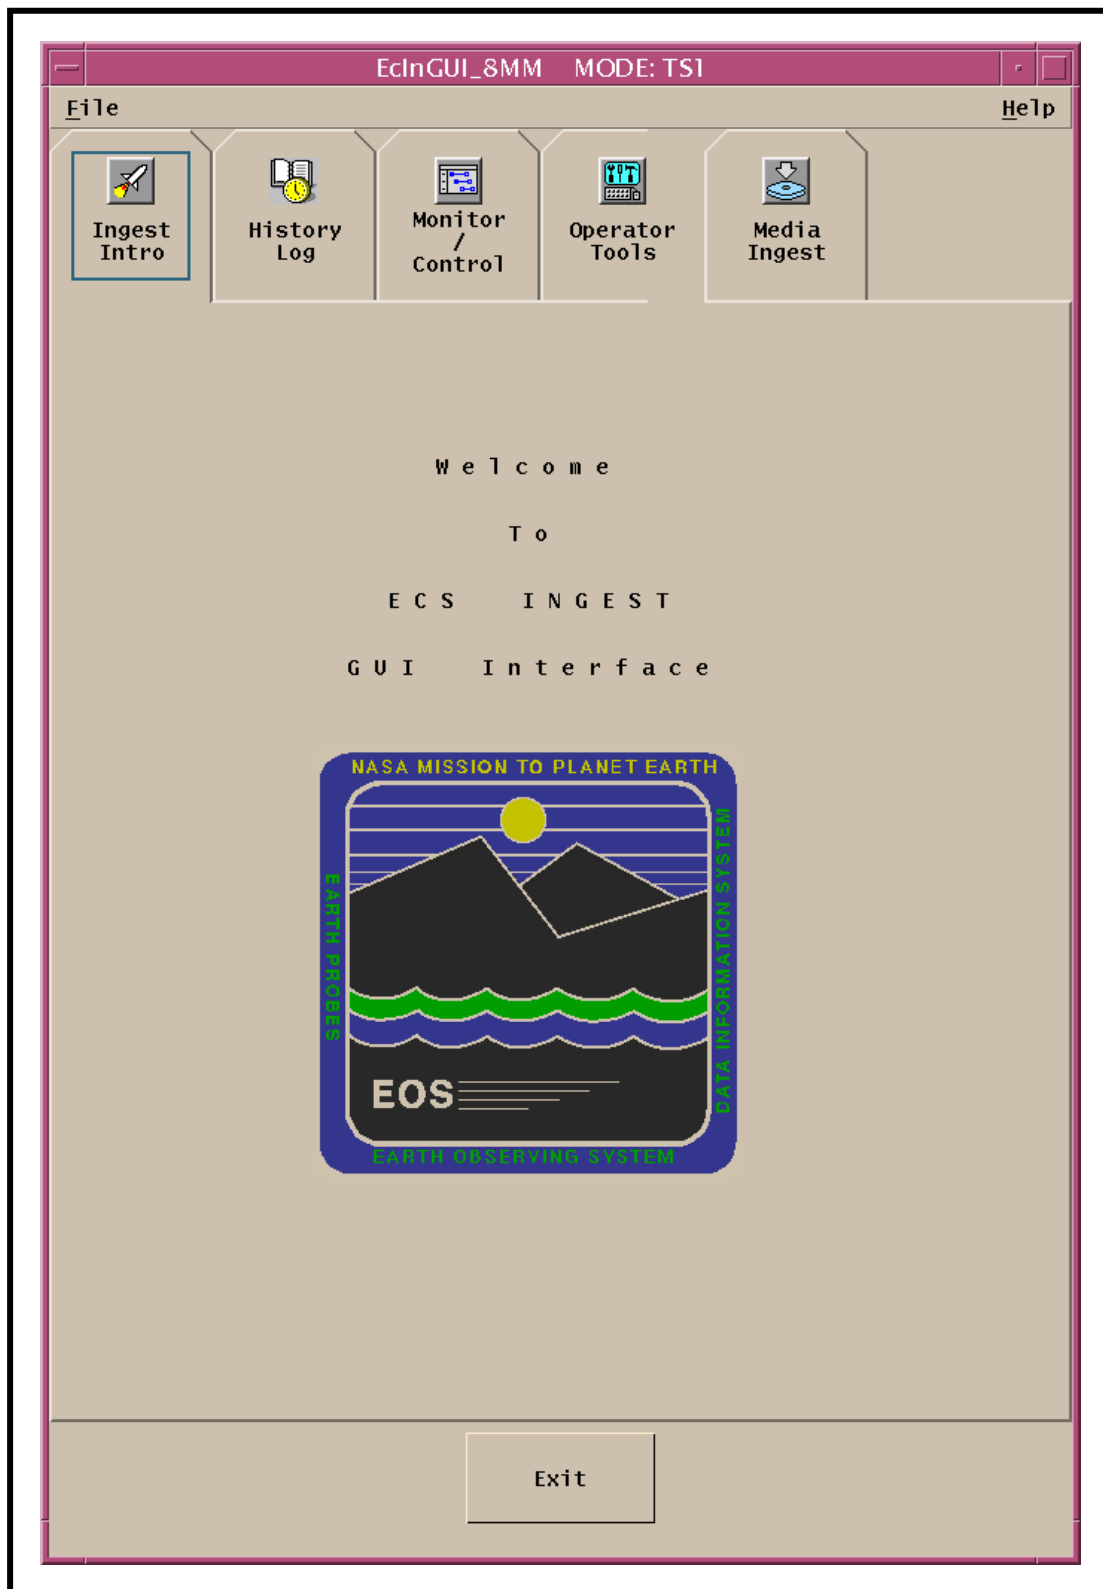

Figure 6. ECS Ingest GUI Intro Screen
The **ECS Ingest** tool, illustrated in Figure 6, has five major functional areas accessible through tab selection:
- The **ECS Ingest GUI Ingest Intro** screen (Figure 6) is displayed.